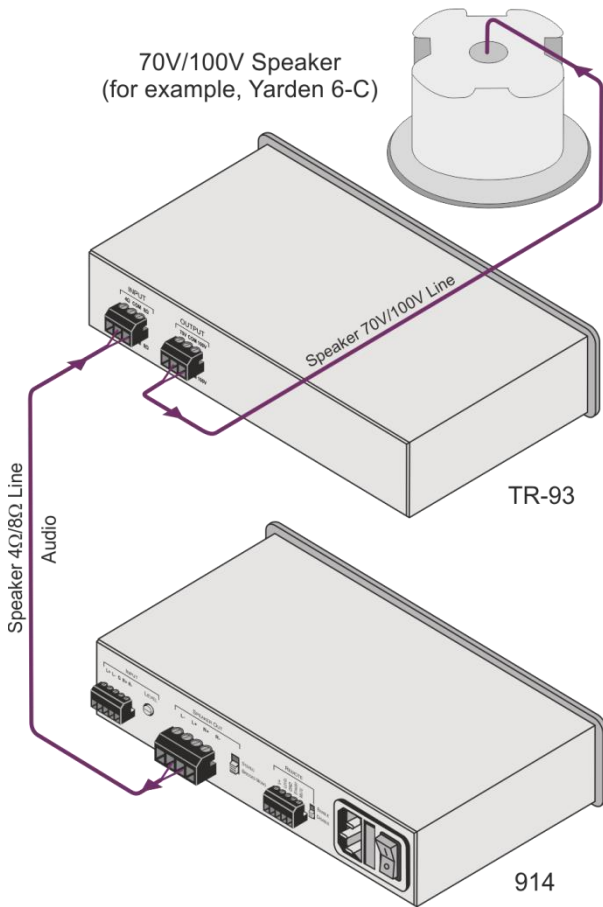

Figure 3: Connecting the TR-93 200W Audio Transformer
To connect the **TR-93**, as illustrated in the example in Figure 3, do the following:
- It to an audio source (not shown in Figure 3)
- The supplied power cord to the **914** power socket and to the mains electricity (not shown in Figure 3)